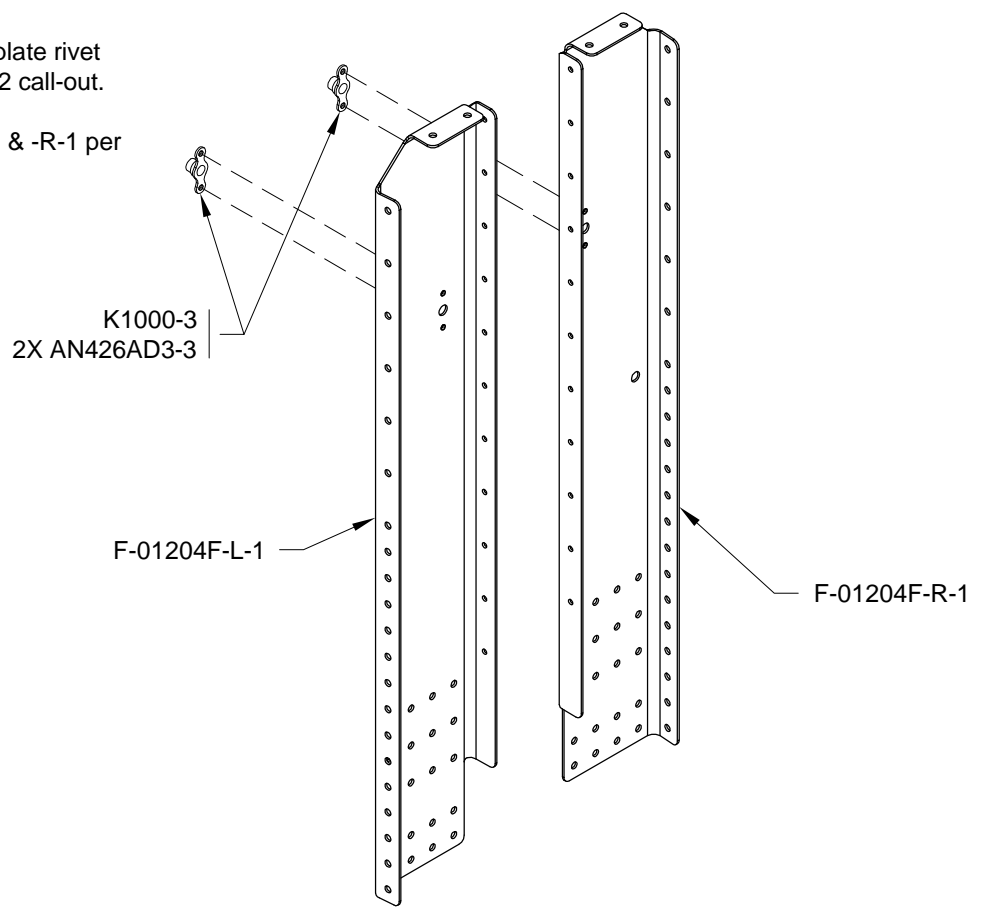

FIGURE 2: INSTALL NUTPLATES
Step 3: Machine countersink #40 the nutplate rivet holes in F-01204F-L-1 & -R-1 per Figure 2 call-out.